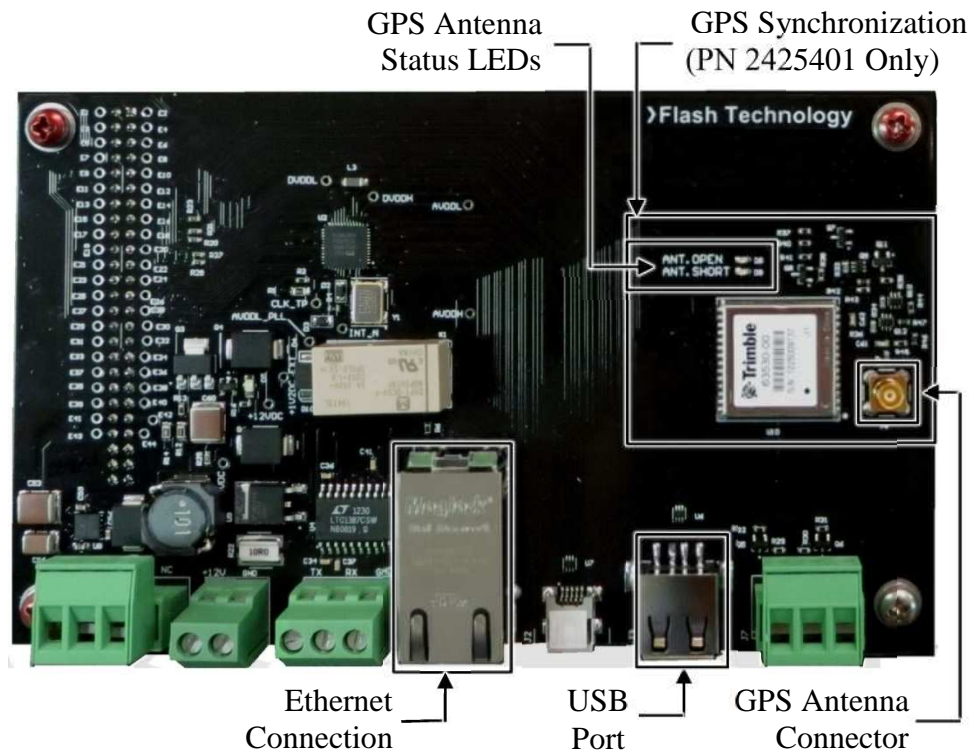
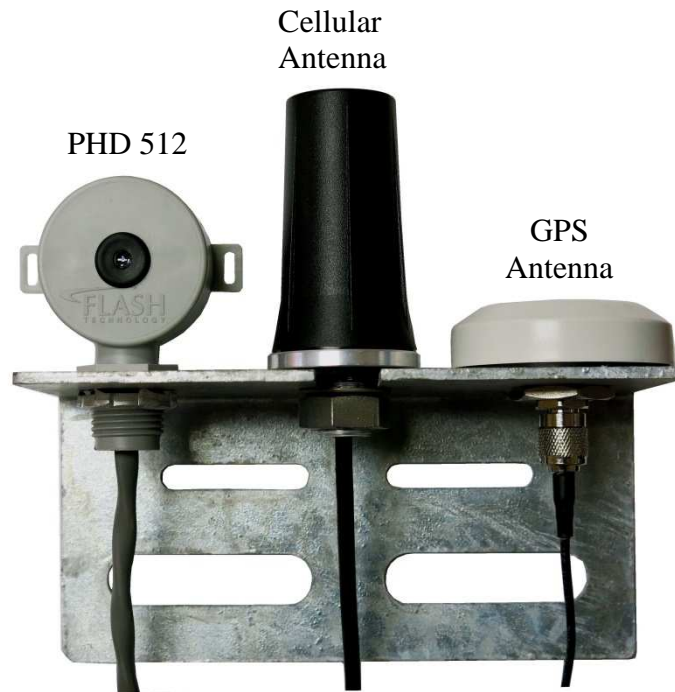

Figure 1-5 – PCB 3 with GPS
Figure 2-1 – Antenna Mounting Bracket with PHD 512, Cellular and GPS Antennas
The optional PCB3 “Smart Board” (PN 2424500) is installed on top of PCB1 of the SC 370 programmed as System 1. It provides an interface to the following advanced monitoring capabilities not available on the standard system: Cellular Eagle 2.0, RS 485 Modbus RTU, Ethernet SNMP, Ethernet Eagle 2.0 and Ethernet Modbus. The GPS enabled Smart Board (PN 2424501), shown in Figure 1-5, provides the same capabilities as the standard Smart Board with the addition of GPS synchronization. Either smart board is required for the optional cellular modem and/or WiFi interface. **The GPS enabled Smart Board is strongly recommended for Catenary systems.**
The photodiode, also referred to as PHD 512, is shown in Figure 2-1 and mounting and outline dimensions are shown in Figure 2-11. The photodiode uses a male 1/2” NPT for mounting. Use the following guidelines to mount the photodiode:
A Cellular antenna (Verizon magnetic mount or AT&T body mount) is required with either of the optional cellular modems shown in Figure 6-1. The supplied antenna mounting bracket's top plate accommodates either the magnetic mount or body mount style antenna as shown in Figure 2-2. Figure 2-1 shows the body mount style antenna installed with the photodiode and GPS antennas. The antenna connects directly to the modem as shown in Figure 2-24. Follow the method below to install the antenna.
simultaneously accommodate a Vanguard Photodiode, Cellular Antenna, and GPS Antenna as shown in Figure 2-1.
2. The cellular antenna **must be mounted at the center of the bracket** as shown in Figures 2-1 and 2-2. Follow the location recommendations noted in "Photodiode Mounting" and "GPS Antenna" if it is installed along with the photodiode and/or GPS antenna.
The GPS antenna, shown in Figure 2-1, is required with the GPS enabled PCB3 Smart Board shown in Figure 1-5. Follow the method below to install the GPS antenna.
3. Route the antenna cable's small connector through the cable strain relief (from the enclosure outside) to the GPS antenna connection located on PCB 3 (see Figure 1-5). Route the cable along the right side of the enclosure. Plug the cable connector into the GPS antenna connection on PCB 3.
5. For best reception and synchronization, choose a location for mounting the GPS antenna with an unobstructed view of the sky. The included mounting bracket can simultaneously accommodate a Vanguard Photodiode, Cellular Antenna, and GPS Antenna (see Figure 2-1).